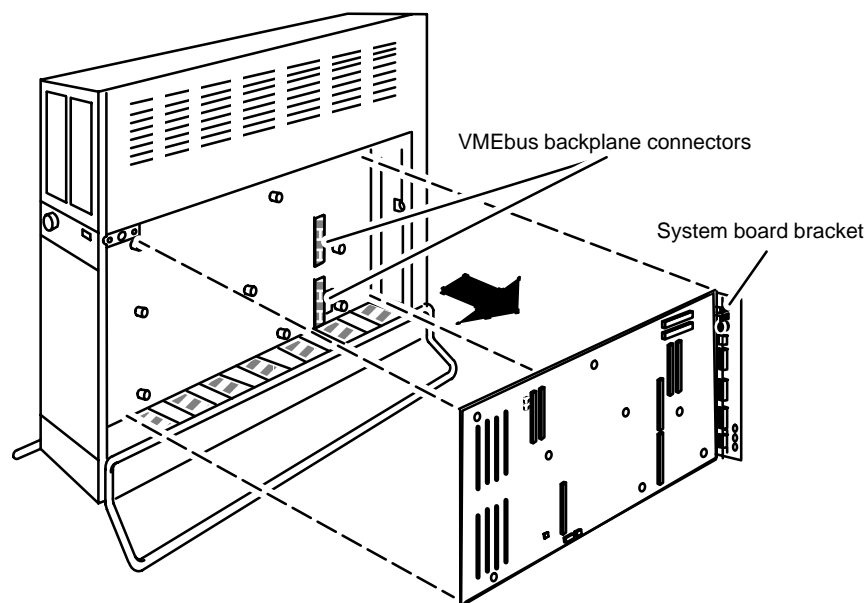

Figure 10-6 Removing the System Board
9. Remove the system board by pulling its bracket away from the computer unit, and then lifting the board out of the computer unit as shown in Figure 10-6.